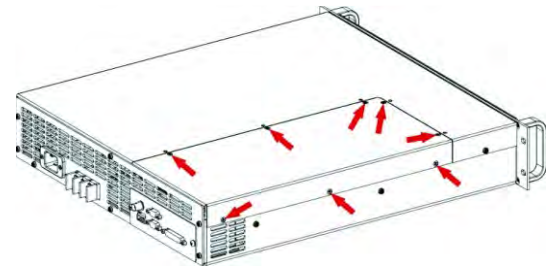

Figure E-1 – 2105/7212/7224 Access Panel Screw Locations
1. On each 2105/7212/7224 amplifier that has been configured for Follower operation, locate the Access Panel as shown in Figure E-1. Make sure that all 8 screws are accessible. Remove the unit from its rack, if necessary.